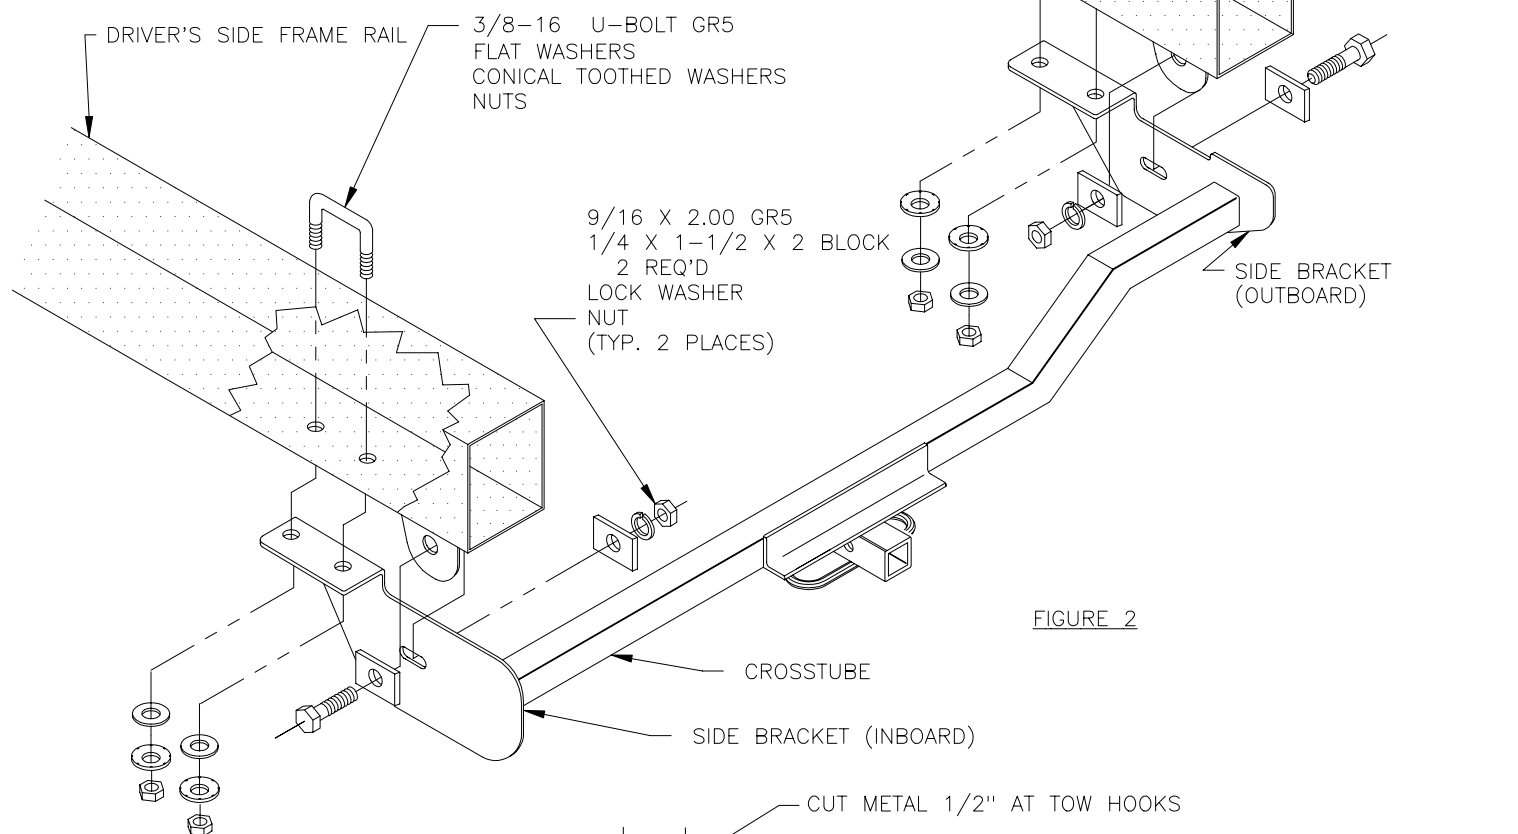

FIGURE 2
3. POSITION HITCH ON VEHICLE AS SHOWN IN FIGURE 2 (SEE NOTE), USING HITCH AS A TEMPLATE, MARK LOCATIONS FOR HOLES TO BE DRILLED INTO VEHICLE FRAME [TWO (2) HOLES PER SIDE] FOR U-BOLTS.
6. INSTALL 9/16" X 2.00 GR5 BOLTS, 1/4 X 1-1/2 X 2 BLOCKS, LOCK WASHERS, AND NUTS THROUGH SIDE BRACKETS AND TOW HOOKS AS SHOWN IN FIGURE 2.